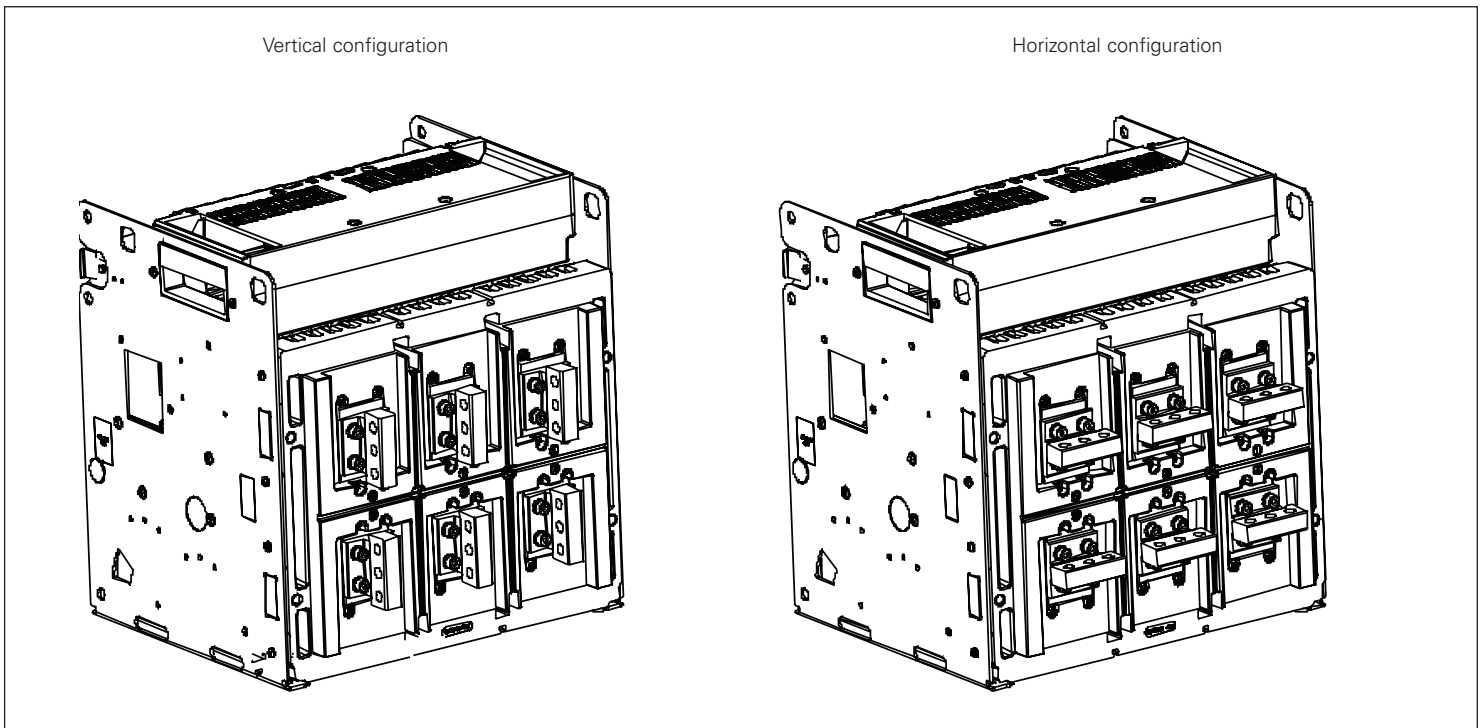

Figure 3. Step 2 - Three-pole with centered three hole rear primary adapter.
Step 1: Bolt a rear adapter to the four mounting holes of a primary terminal pad as shown using the hardware provided. Torque the bolted connection to 120 in-lbs / 13,6 N·m using a torque wrench. Refer to Figure 3 for the applicable configuration.